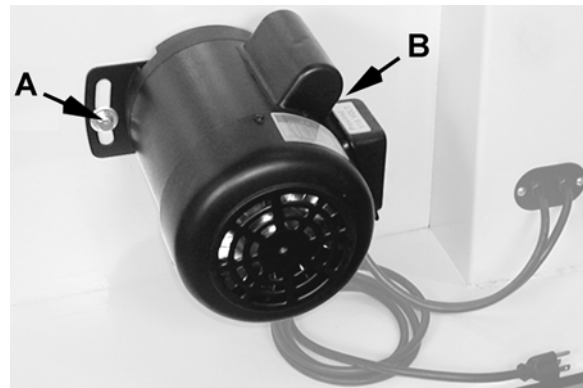

Figure 25
2. Release belt tension by loosening the two hex cap screws (A, B, Fig. 25). The pivot bolt (B) is not visible.
1. Release belt tension by loosening the two hex cap screws (A, B, Fig. 25). The pivot bolt (B) is not visible.